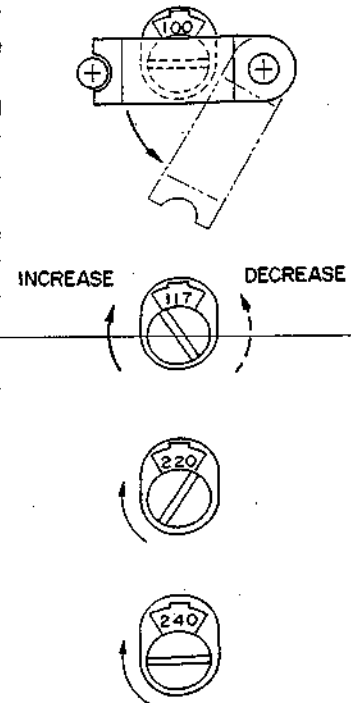

Fig. 24 Voltage Selector Setting
2. Turn the deck around and locate the voltage selector on the rear of the deck. (See Fig. 24)